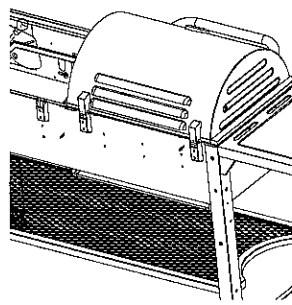

Fig. 18C
Refer to Fig.18C and place the Lid on the Gas Grill side of the Grill. Attach the Hinges together using the (2) Long Hinge Pins and insert an "R" Clip into the ends of the Pins to keep them from coming loose.